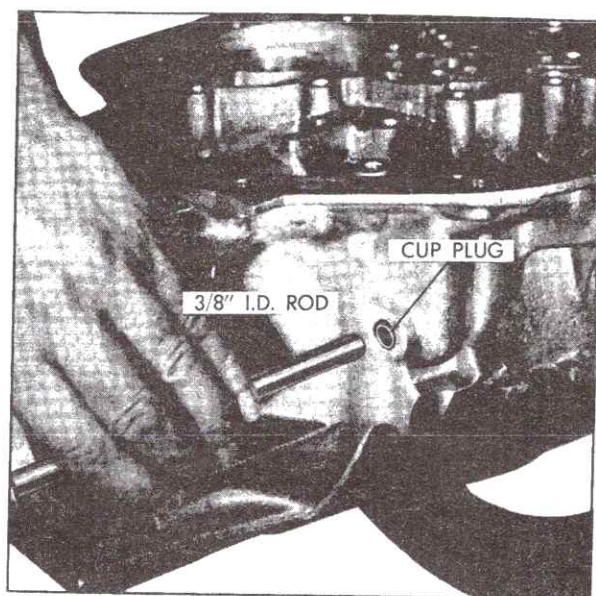

Fig. 7-91 Installing Cup Plug
3. Install parking pawl shaft cup plug by driving into the transmission case, using a 3/8 inch diameter rod, until the parking pawl shaft bottoms on the case rib, Fig. 7-91.